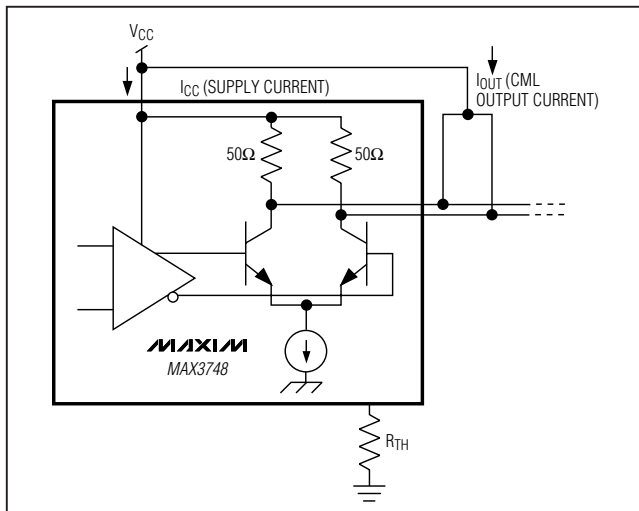

Figure 1. Power-Supply Current Measurement
- Note 6:** The supply current measurement excludes the CML output currents by connecting the CML outputs to a separate V_{CC} (see Figure 1).